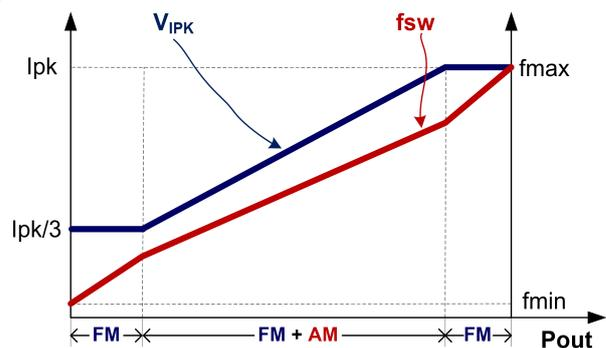

Fig.1
To meet the tight requirement of averaged system efficiency and no-load power consumption, a hybrid of frequency modulation (FM) and amplitude modulation (AM) is adopted in KP320X which is shown in the Fig 1.